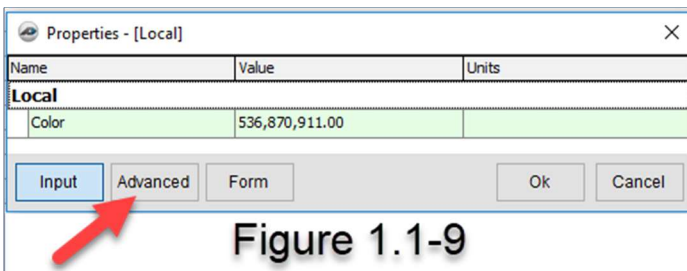

Figure 9
12. Figure 9 shows the properties box for **Local**: Click on **Advanced**.